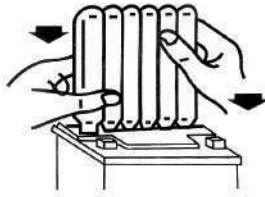

Fig.2
2. Line up the neck of the bottle with the battery filling holes (Fig.2)